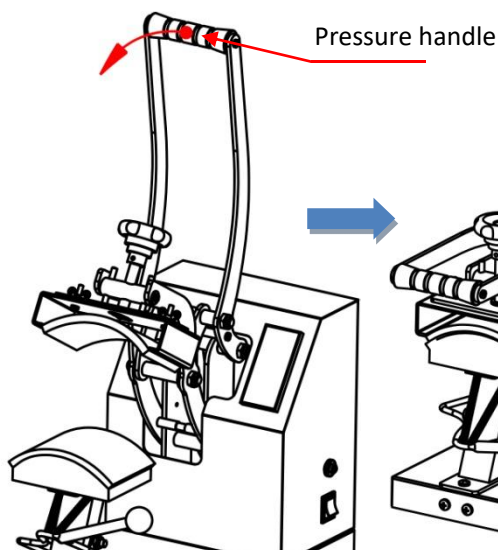

Figure 8
5. When the operating temperature is reached, push the “pressure handle” down until the beeper keeps beeping, as shown in Figure 8 and 9. Then, lift the “pressure handle” and remove the cap from the mould.